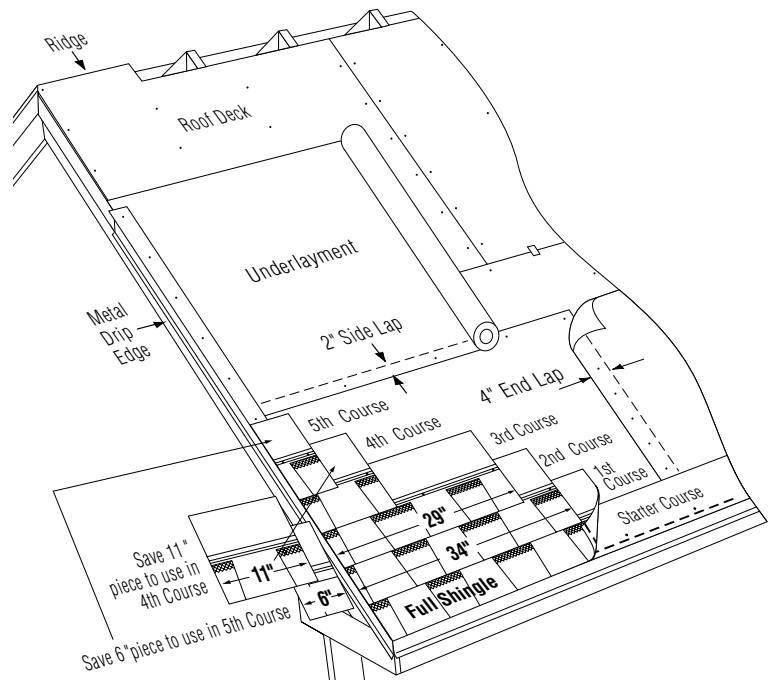

Figure 13-6: Applying the first 5 courses of Landmark TL.
1. Use CertainTeed Swiftstart® Starter, or three-tab self-sealing shingles with the lower tab portions removed. Be sure that the starter shingles are at least 7⁵/₈" in height. (Figure 13-6).